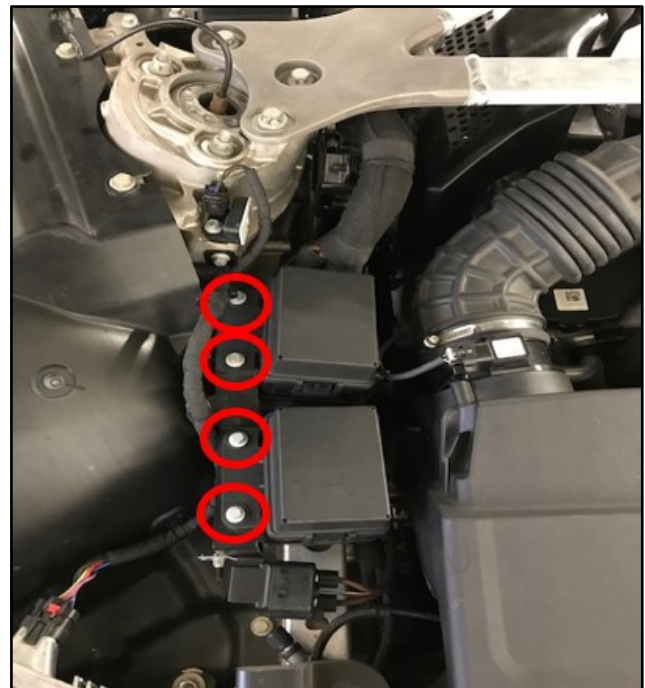

Figure 1
2. Remove the four bolts that attach the fuse boxes to the vehicle (refer to Figure 1).